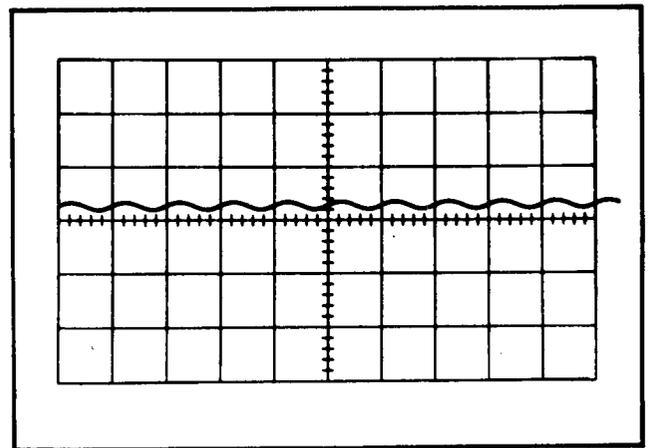

Fig. 6-34. Typical CRT display when checking high-frequency reject operation at 50 kilohertz.
c. CHECK-Stable CRT display (see Fig. 6-34) can be obtained with the B LEVEL control.
i. CHECK-Stable CRT display (see Fig. 6-34) can be obtained with the A LEVEL control.